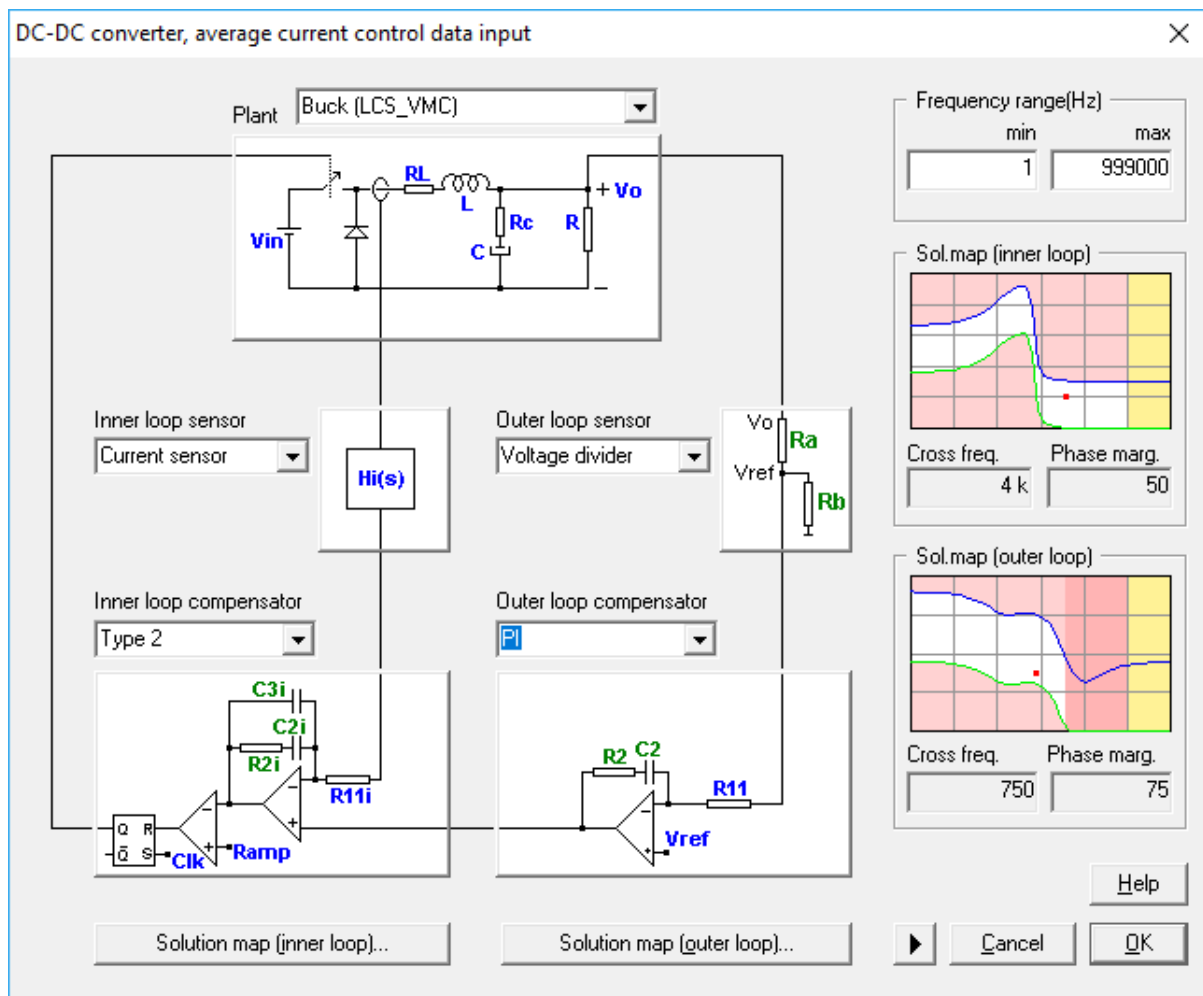

Figure 19: Double loop buck controller fully defined
4. Click OK to confirm the design and Figure 19 will be shown.